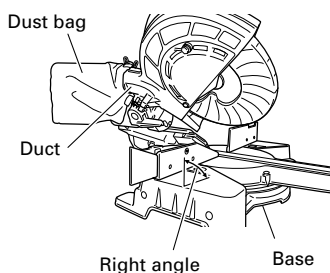

Fig. 46
- (1) When the dust bag has become full of sawdust, dust will be blown out of the dust bag when the saw blade rotates. Check the dust bag periodically and empty it before it becomes full.
- (2) During bevel and compound cutting, attach the dust bag at a right angle to the base surface as shown in Fig. 46.